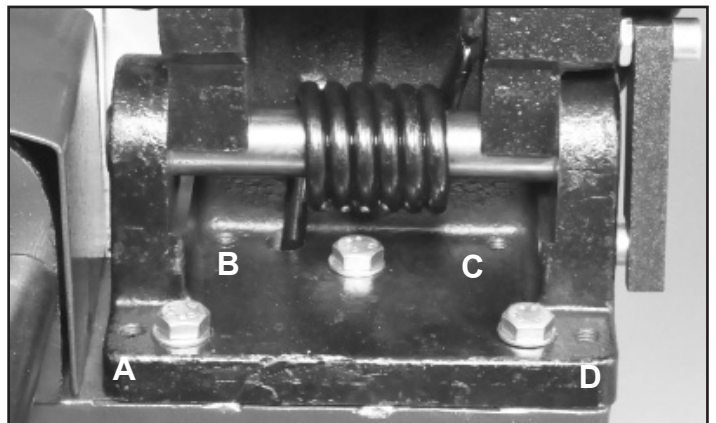

FIG. 22
3. With the table up, the Support Base (#120) for the infeed table is exposed. The base has three Hex Bolts (#132) and four Set Screws (#134) that fasten the table to the cabinet. The set screws can be adjusted to slightly tilt the table to align it with the infeed table. FIG. 22.
- The pair of 2 set screws to the far left will raise the left end of the table. FIG. 22, A & B.